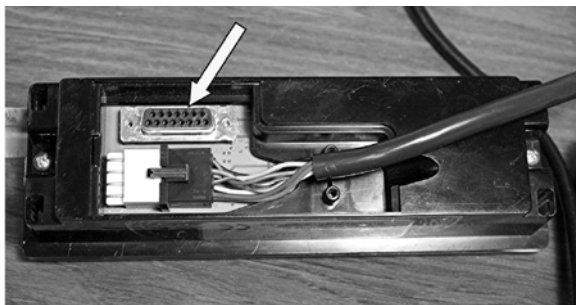

Figure 46: 15 Pin “D” Connector
4. Connect a Thermo King 9 to 15 pin serial cable from the PC computer to the 15 pin connector on the back of the TSD Control Panel shown in Figure 46.